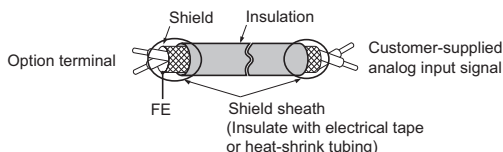
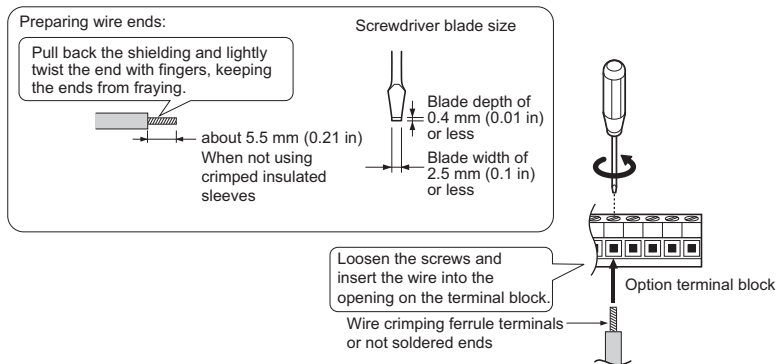

Figure 7 Prepare Ends of Shielded Cable
Figure 8 Connect Cable Wiring
5. Prepare and connect the wire ends as shown in Figure 7 and Figure 8. Refer to Wire Gauges and Tightening Torques on page 37 to confirm that the proper tightening torque is applied to each terminal. Take particular precaution to ensure that each wire is properly connected and wire insulation is not accidentally pinched into electrical terminals.
6. Wire the customer-supplied analog input signal to terminal block on the option according to Figure 8. Refer to Figure 29 for the AI-A3 Option connection diagram. Refer to Table 5 for a detailed description of the option terminal functions.